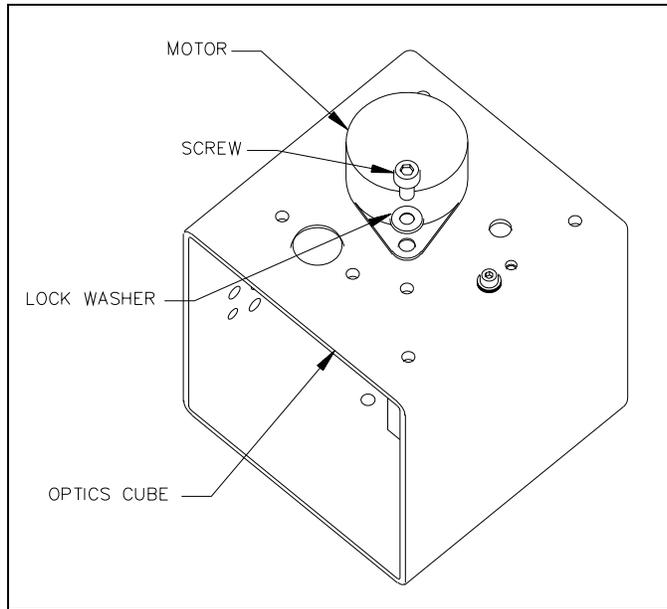

Figure 11-30 Filter Motor
- 2 Remove the 2 M3 x 6mm socket head cap screws and 2 M3 lock washers fastening the motor and remove it from the cube (Figure 11-30).